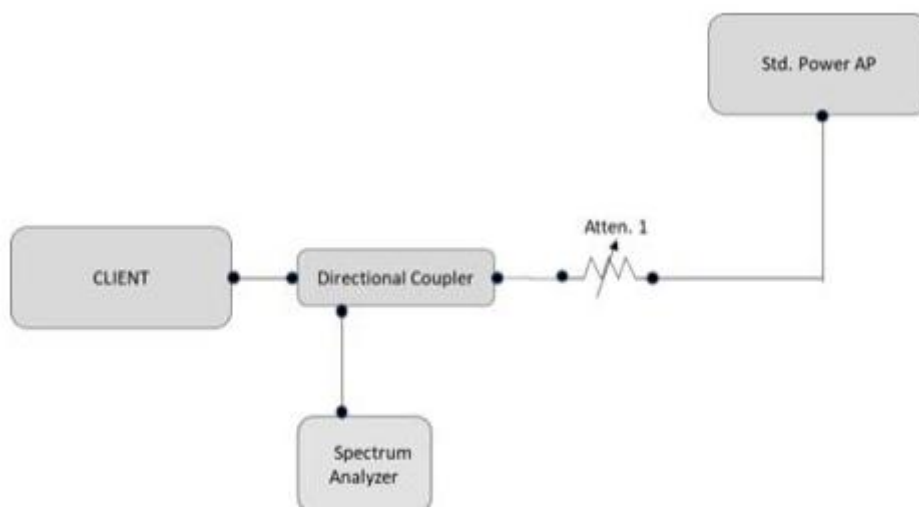

Figure 7. Test setup for conducted testing
1. Connect equipment as shown in Figure 7 below.